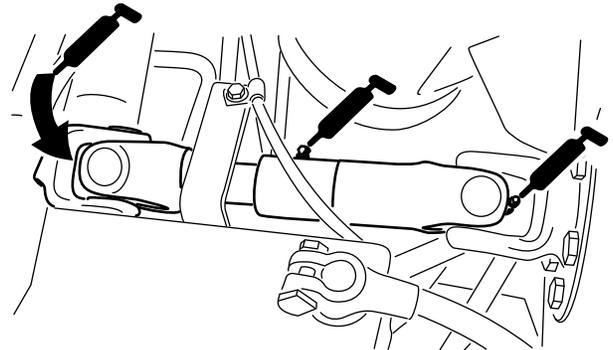

Figure 68
- Pump-driveshaft U-joint (3) (Figure 68)